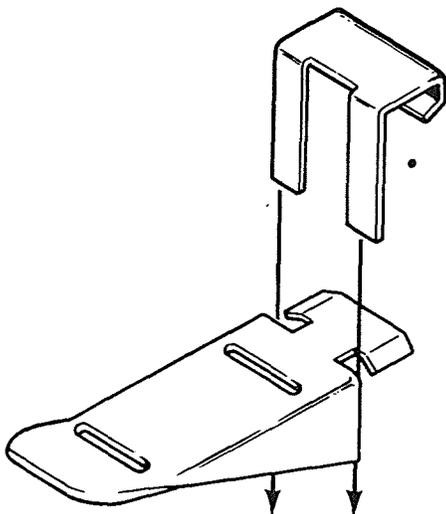
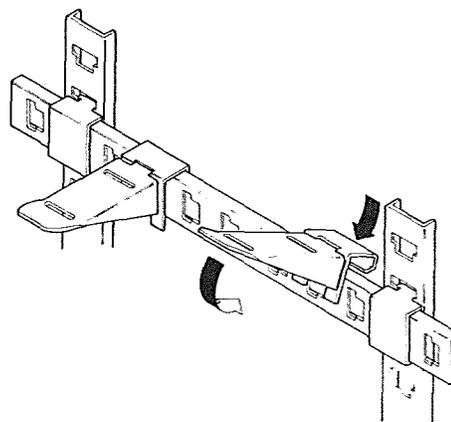

Figure 18. Placing Clip on Manhole Rack
Figure 19. Placing Hook on Rack
(3) Insert clips over manhole hooks as shown in Figure 18, then determine horizontal position of required support. Hook clip over upper flange of horizontal rack and rotate into position as shown in Figure 19.